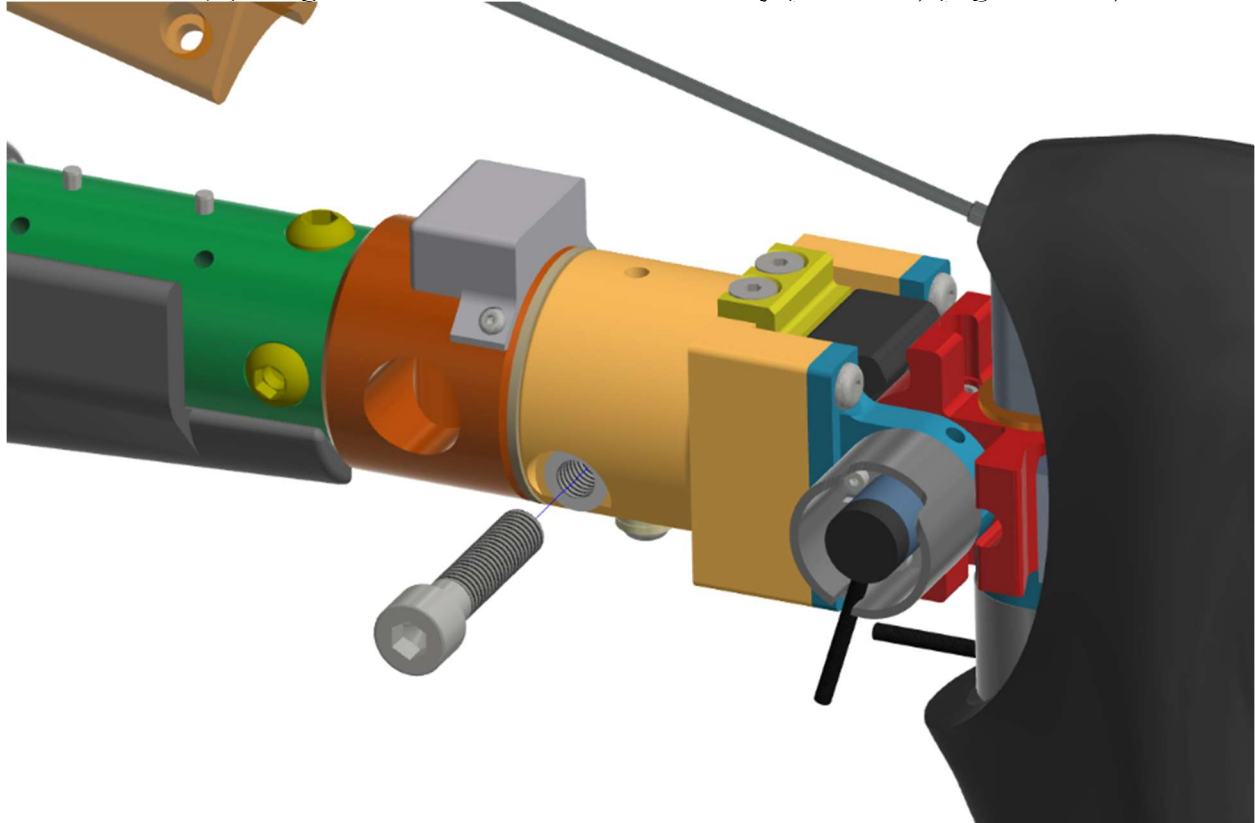

Figure 10-60. Assemble the Lower Tibia Load Cell (SA572-S104) to the Upper Ankle Adaptor (474-5820-1,2)
10.3.25 Assemble the Lower Tibia Load Cell (SA572-S104) to the Upper Ankle Adaptor (474-5820-1,2) using the Ankle Bolt & Sleeve Assembly (472-7563) (Figure 10-60).